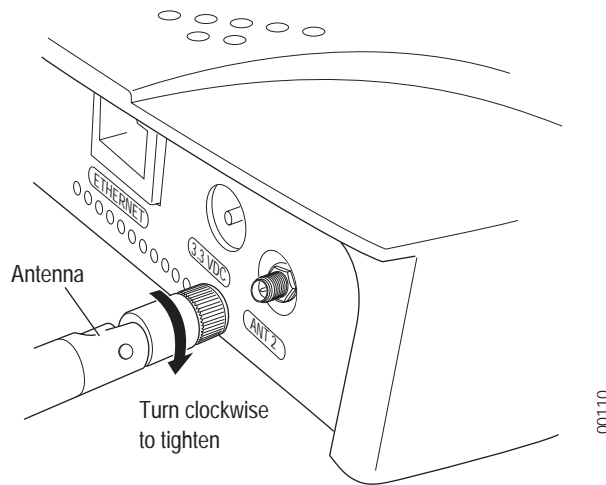

Figure 15: AP200 Antenna Connection
If the AP200 does not have external antennas, attach the antennas to the connectors on the AP200 (see Figure 15). Rotate the knurled ring at the base of the antenna clockwise to attach the antenna. The ring should be finger-tight.
2. For each antenna, loosen the knurled ring at the base of the antenna (see Figure 15), point the antenna straight up, then retighten the ring.
8. For external antennas, loosen the knurled ring at the base of each antenna (see Figure 15), point the antenna straight up, then retighten the ring.
9. For each antenna, loosen the knurled ring at the base of the antenna (see Figure 15), point the antenna straight down, then retighten the ring.
11. For each antenna, loosen the knurled ring at the base of the antenna (see Figure 15), point the antenna down, then retighten the ring.